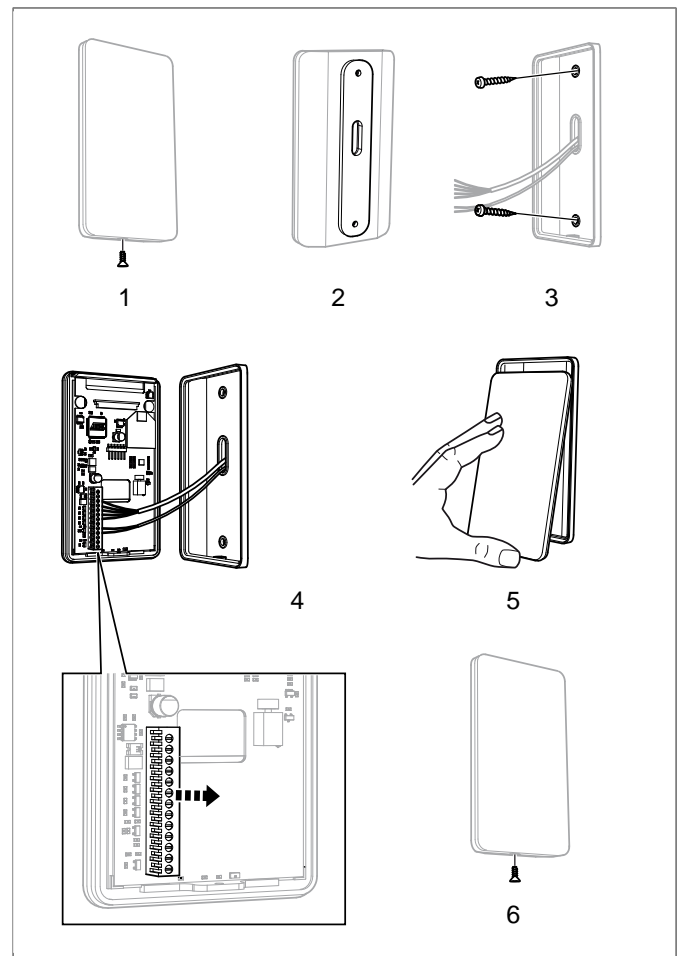

Figure 15: Installing the control panel
1. Slacken the lock screw and split the panel and back piece (see **Figure 15**, Page 6 pos 1).
2. Glue the seal onto the back piece (see **Figure 15**, Page 6 pos 2).
3. Mount the back piece leaving sufficient room for electrical cables to pass through their openings. Note that the hole for the retaining screw must be at the bottom (see **Figure 15**, Page 6 pos 3).
4. Screw the wires onto the terminals according to the wiring diagram (see **Figure 15**, Page 6 pos 4). To simplify connection, the long terminal can be removed from the circuit board when screwing on the wires. Pull the terminal straight out, do not bend it to avoid damage (see **Figure 15**, Page 6 detailed picture).
5. Slide on the control panel glass element from the bottom, and hold in place (see **Figure 15**, Page 6 pos 5).
6. Tighten the lock screw in the bottom edge (see **Figure 15**, Page 6 pos 6).